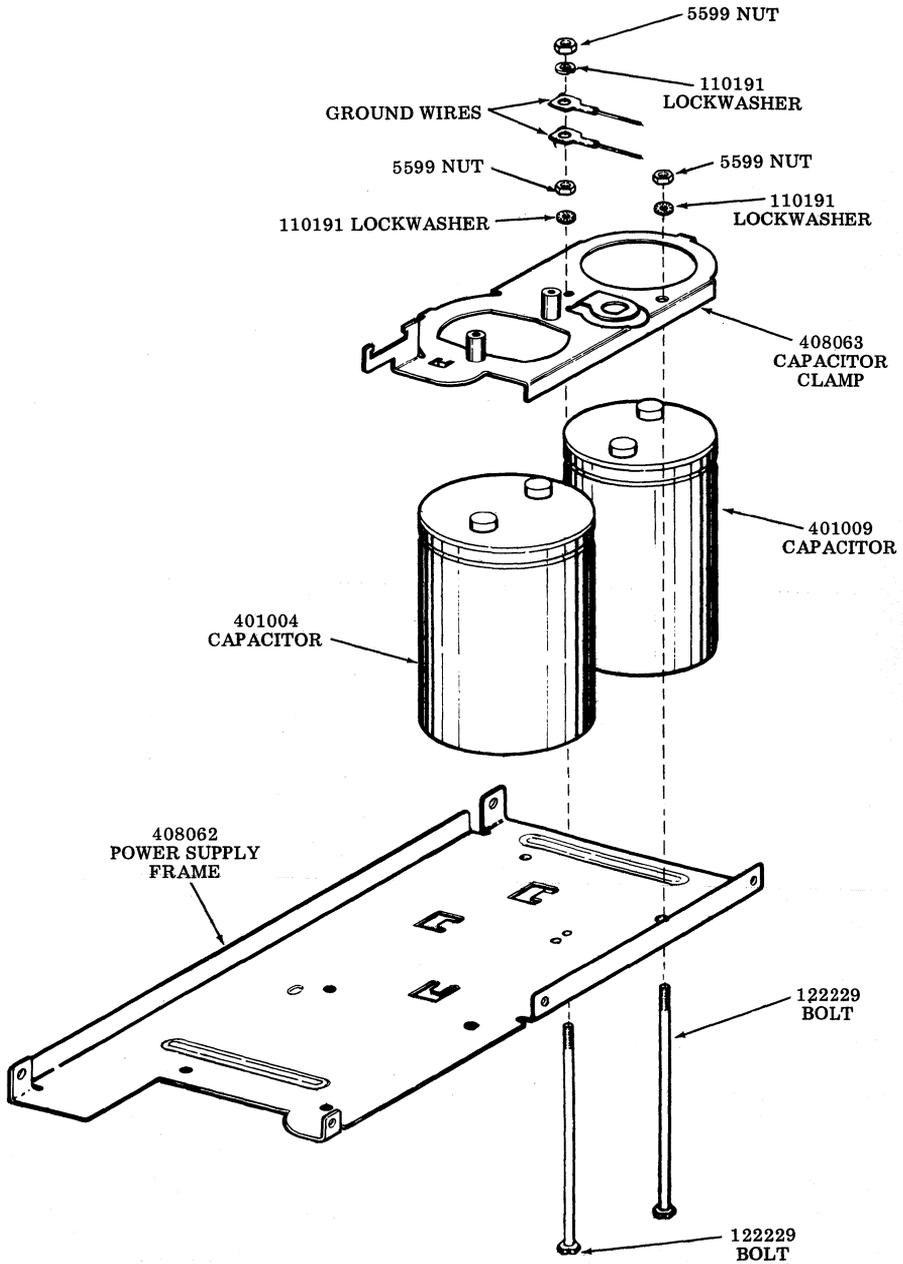

Fig. 30—Parts Peculiar to Late Design 40PSU101
- (a) Remove the capacitor clamp by removing the three 5599 nuts and three 110191 lockwashers as shown in Fig. 30.